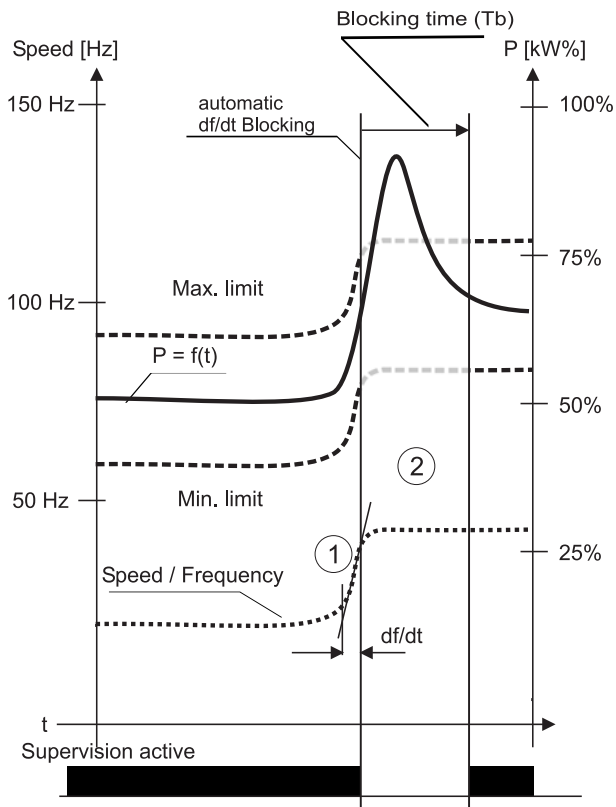

Figure 4.6 Automatical df/dt blocking
The APM450 is able to block the supervision automatically during changes in speed ($\pm df/dt$). If the speed changes with a certain dynamic the change will be detected (1) and the supervision is deactivated (blocked) (2) - see figure 4.6.